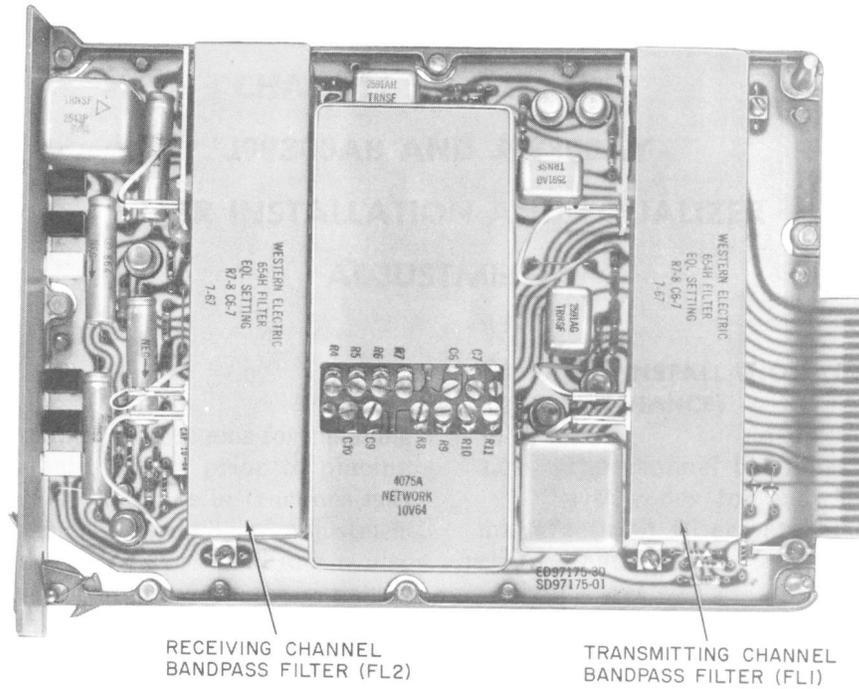
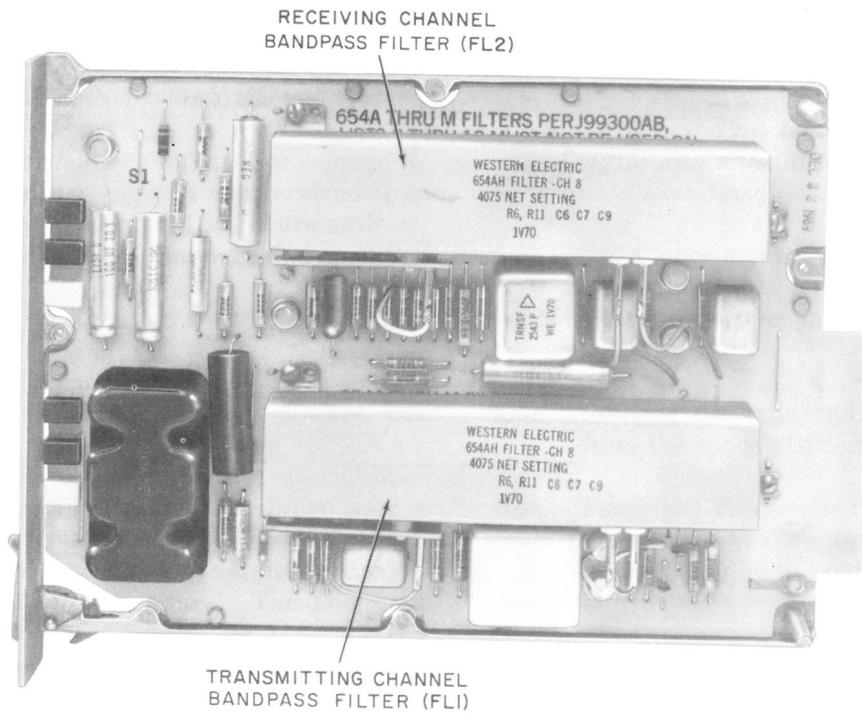

Fig. 1—J99300AB Channel Modem with Filters
Fig. 2—J99300AY Channel Modem with Filters
**2.03** Obtain two filters with the proper code and install them as follows, using Fig. 1 or Fig. 2 as a guide.
3.01 The J99300AB channel modem has an adjustable equalizer within the 4075A network. Adjustments are made by closing or opening designated screw switches (see Fig. 1).
3.03 When a defective 654A-M receiving filter (FL2) is replaced with a 654AA-AM filter, the 4075A equalizer screws must be reset. Care should be taken to properly identify the receiving channel bandpass filter (see Fig. 1) so that the new type (coded 654AA-AM) is installed in the FL2 position.